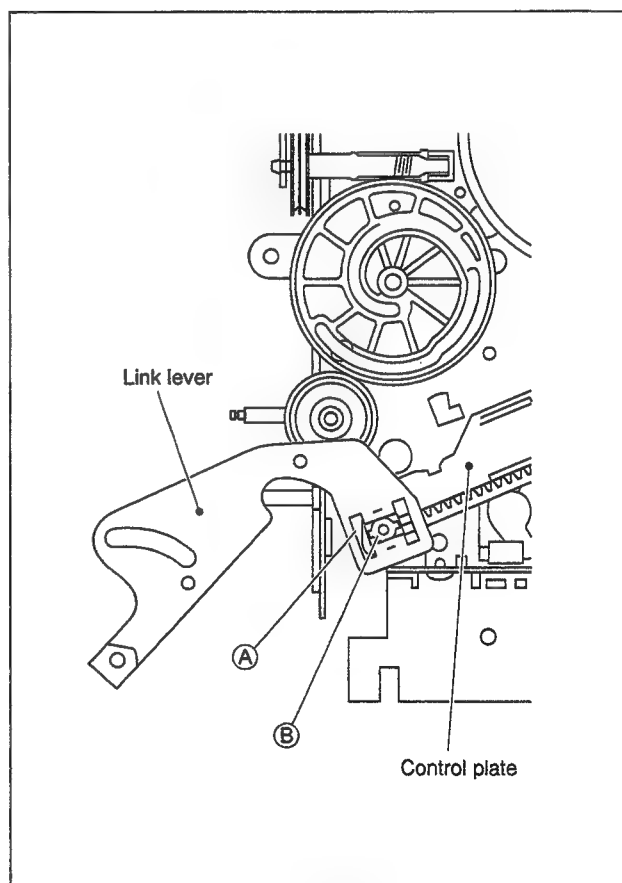

Fig. 2-3-5
- (3) Insert section (A) of the link lever into section (B) of the control plate as shown in Fig.2-3-5.